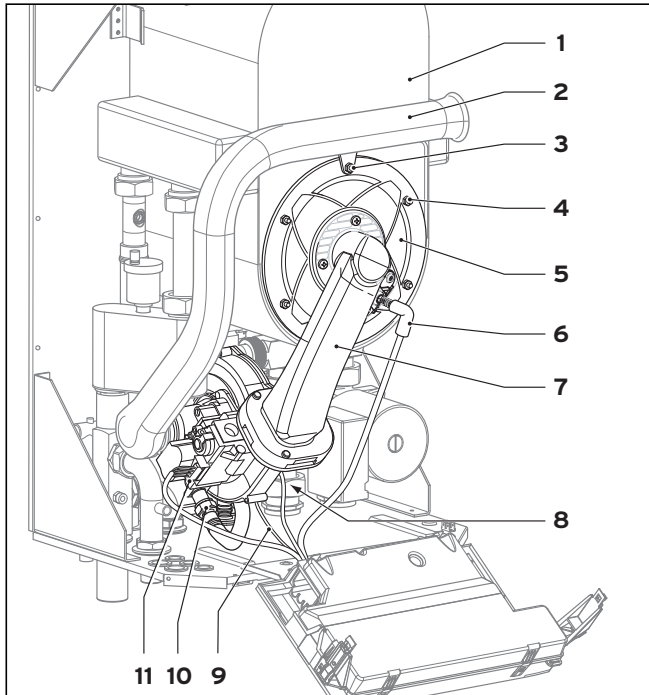

Fig. 7.1 Dismounting/Mounting the compact thermal module
The compact thermal module consists of the speed-controlled fan, the gas fitting, the mixer tube and the burner with flange. These four components make up the assembly that is the compact thermal module. Proceed as follows to dismount it: (see fig. 7.1)
- Undo the fastening screw of the air intake pipe (3) and lift the air intake pipe forward (2); remove the air intake pipe from the intake socket.
- Pull the two plugs of the ignition and grounding lines off the ignition electrode (6).
- Undo the gas supply line (10) on the underside of the electronic gas valve (fig. 7.1).
- Pull off the cable (8) at the fan motor (coupling), the PWM signal cable beneath the fan (9) and the cable for the gas fitting (11).
- Undo the six nuts (4).
- Put the compact thermal module (5) onto the heat exchanger (1) (fig. 7.1).
- Tighten the six nuts (4) evenly and crosswise.
- Put the air intake tube (2, fig. 7.1) onto the intake socket and tighten the screw (3).
- Connect the gas supply line (10) with a new seal to the gas fitting. Use a suitable open-end spanner to do so.
- Connect the two plugs of the ignition and the earth connection to the ignition electrode (6).
- Put back on the cable (8) at the fan motor (coupling), the PWM signal cable beneath the fan (9) and the cable for the gas fitting (11).